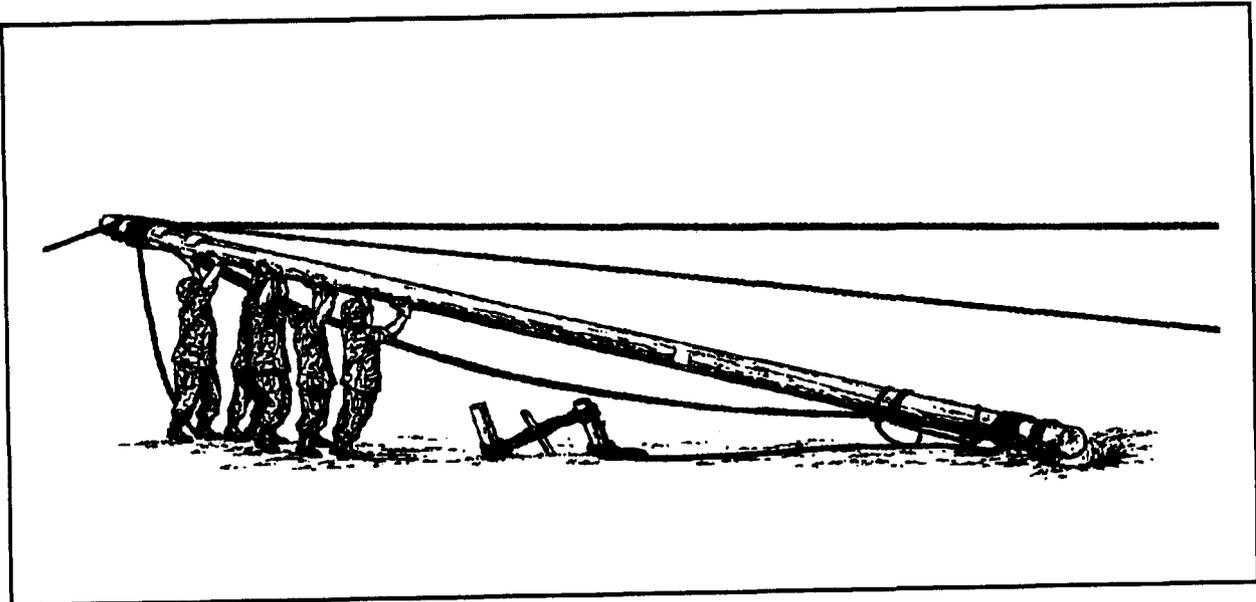

Figure 5-2. Erecting a gin pole
You can easily raise a 40-foot-long gin pole by hand (see *Figure 5-2*). However, you must raise longer poles by supplementary rigging or power equipment. The number of people needed to erect a gin pole depends on the weight of the pole. The procedure is as follows:
- Haul in on the fall line of the tackle system, keeping a slight tension on the rear guy line and on each of the side guy lines, while eight people (more for larger poles) raise the top of the pole by hand until the tackle system can take control (see *Figure 5-2, page 5-3*).